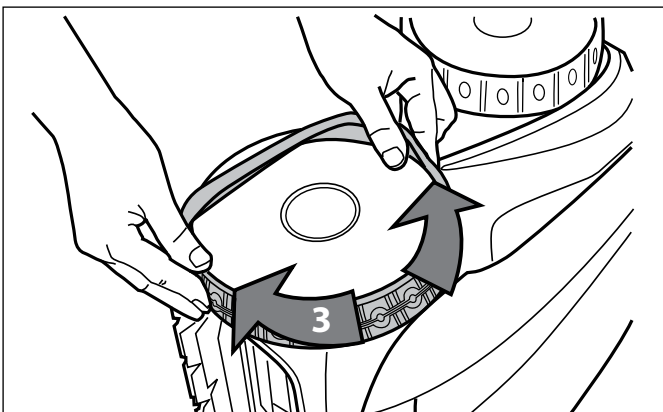

Figure 39. Work the Tire On Around the Wheel
5. Work the tire onto the wheel and verify the rib of the tire is positioned properly within the groove of the wheel (Figure 39).